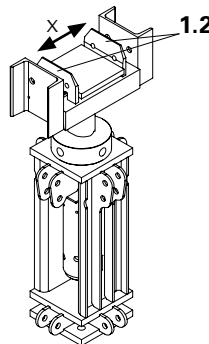

Fig. 12
2. Remove spacer plates (1.6), and adjust centering jaws (1.2) by moving to width x of the crossbeam (3). (Fig. 12)
3. Fill the space between the centering jaws (1.2) and fork head with the same number of spacer plates. (Fig. 12)